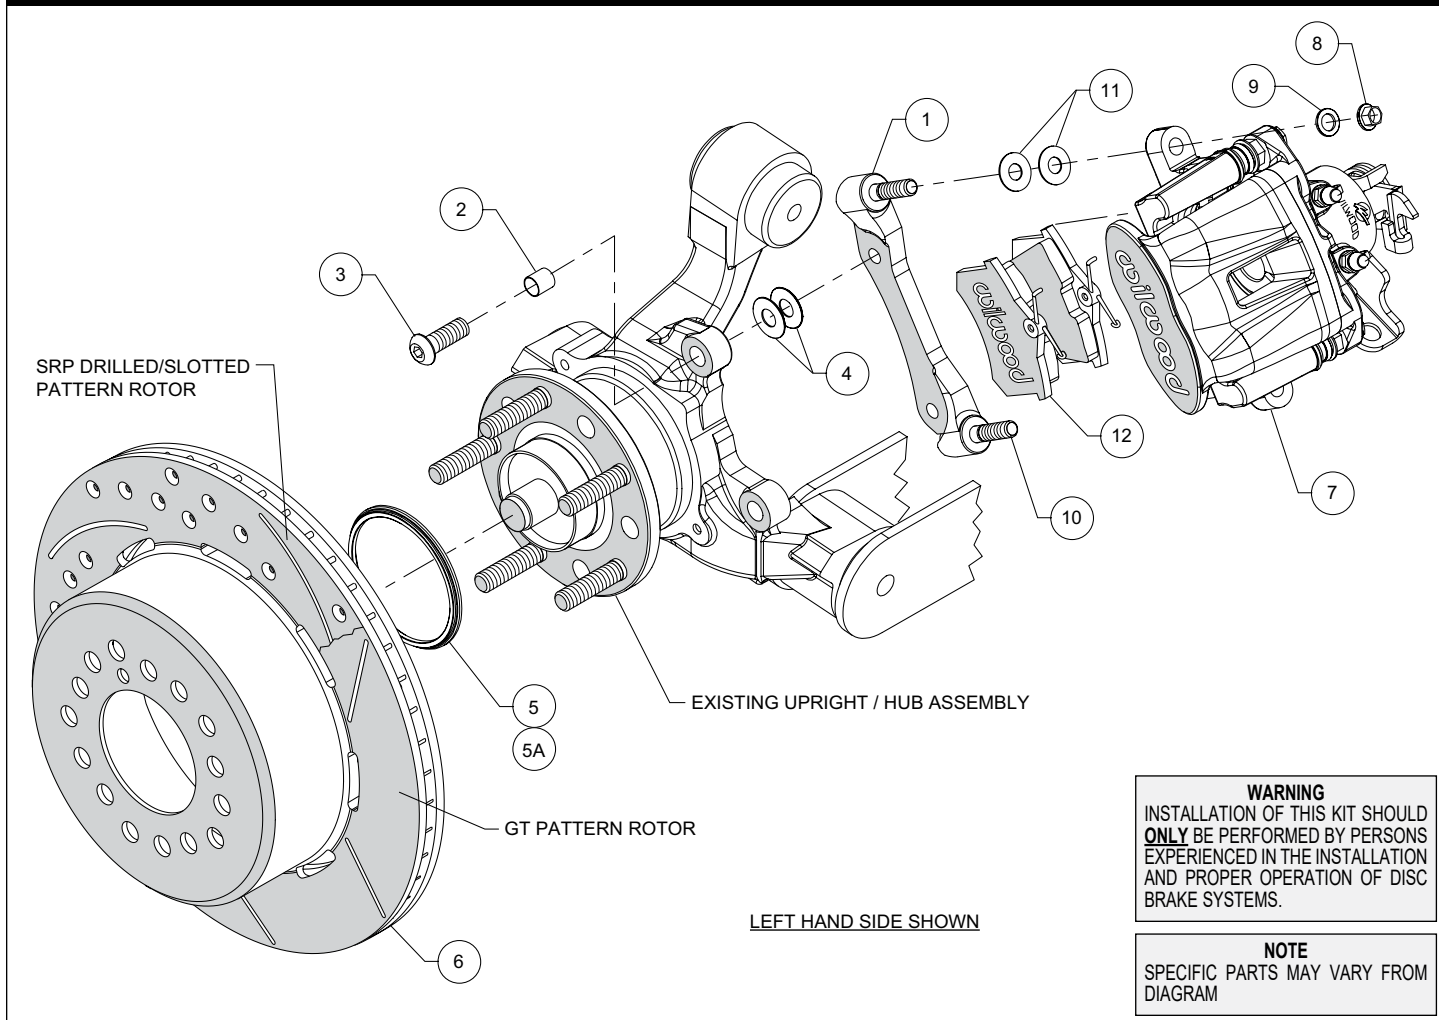

Figure 1. Typical Installation Configuration
NOTE: Numbers in parenthesis refer to the parts list and Figure 1 on the preceding pages.
•The caliper mount bracket (1) should initially be installed with clean, dry threads on the mounting bolts. Insert sleeves (2) into caliper bracket mounting holes in upright, Figure 1. Orient the bracket as shown in Figure 1, and install using bolts (3). Initially place two .030" thick shims (4) on each bolt between the bracket and upright, Figure 1. Temporarily tighten the mounting bolts. **NOTE:** The bracket must fit squarely against the mount bosses on the upright. Inspect for interference from casting irregularities, machining ridges, burrs, etc. Later, after the caliper alignment has been checked, the mount bolts will be secured using red Loctite® 271.
•Align the correct hole pattern in the rotor/hat with the stud pattern on the axle flange and slide into place, Figure 1 and Photo 3. **NOTE:** The rotor/hat must fit flush against the axle flange or excessive rotor run out may result. Install three lug nuts (finger tight) to keep the rotor/hat assembly in place while continuing with the installation. **NOTE:** Some OEM and after market axles come with stud sizes larger than 0.50" diameter. Verify stud size and have a qualified machine shop drill the bolt circle of the hat/rotor to the correct stud size, if necessary.
- Slide the brake pads (12) up into the caliper (7) from the bottom with the friction material facing the rotor until the “v” spring clip snaps into place against the anvil, as shown in Figure 1 and Photo 4. They should install easily without interference.
- Initially place two .035” thick shims (11) on each stud (10) as shown in Figure 1. Mount the caliper (7) onto the bracket (1) using washers (9) and lock nuts (8), as shown in Figure 1. Temporarily tighten the mounting nuts and view the rotor (6) through the top opening of the caliper. The rotor should be centered in the caliper, Photo 5. If not, adjust by adding or subtracting .030” shims (4) between the caliper mounting bracket and the upright to center the caliper on the rotor. Always use the same amount of shims on each of the two mounting bolts. Once the caliper alignment and pad centering are correct, remove the bolts (3) one at a time, apply red *Loctite*® 271 to bolt threads, and torque to 40 ft-lb.
- Check that the top of the brake pad (12) is flush with the outside diameter of the rotor (6), Photo 6. If not, adjust by adding or subtracting shims (11) between the caliper and the bracket. Torque nuts (8) to 30 ft-lb.